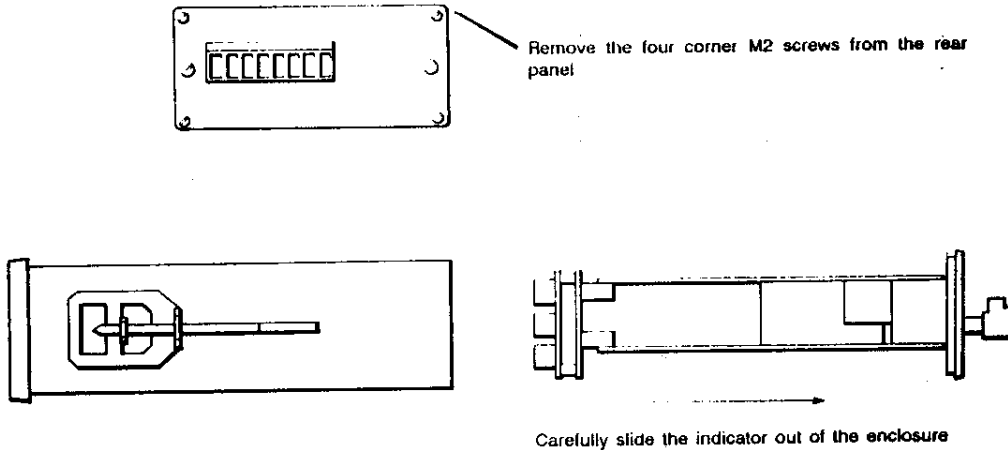

Fig 7 Removal of indicator from enclosure
- i Remove the indicator from its case - see Fig 7